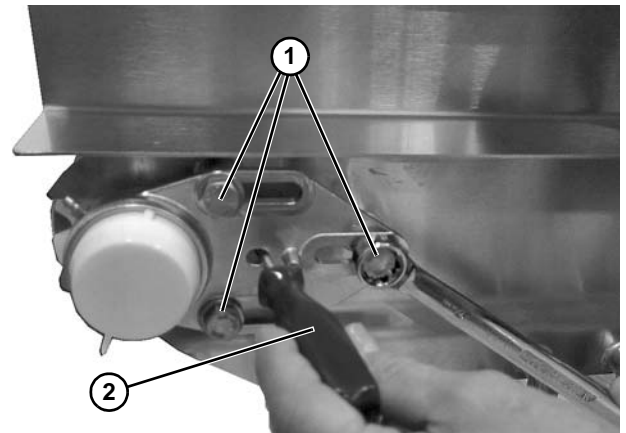

Figure 48
1. To adjust tracking, loosen three screws (Figure 48, item 1) on each side of conveyor.
2. Tension each end with a bar (Figure 48, item 2), as needed for tracking. While applying tension, tighten three screws (Figure 48, item 1).